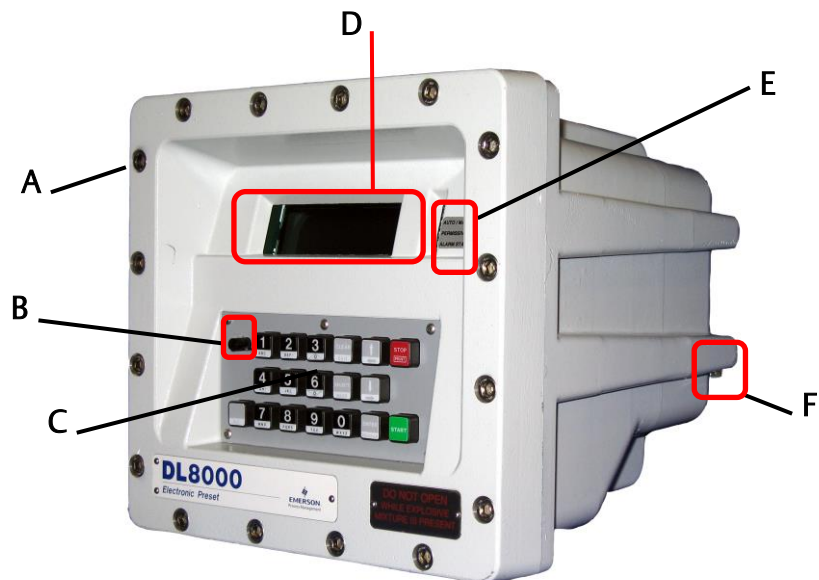

Figure 5. DL8000 Preset Controller
3. Apply power to start up the DL8000. The LCD display above the keypad (see *Figure 5*) should light.